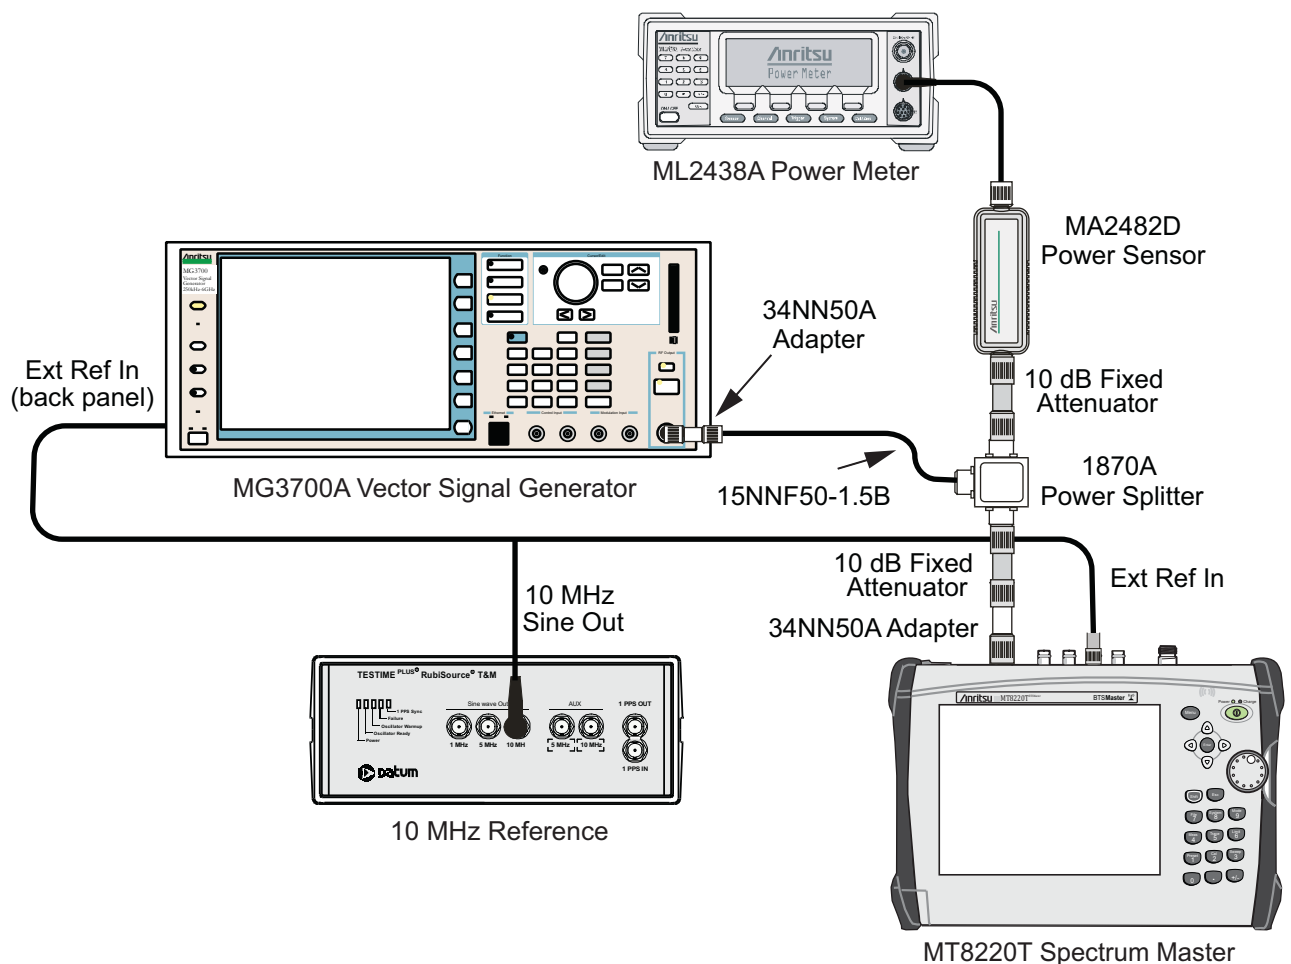

Figure 6-10. Fixed WiMAX Signal Analyzer, Test Setup
4. Connect the Power Sensor, 1870A splitter, and 10 dB attenuators (quantity 2) as shown in Figure 6-10.
4. Connect the Power Sensor, 1870A splitter, and 10 dB attenuators as shown in Figure 6-10.